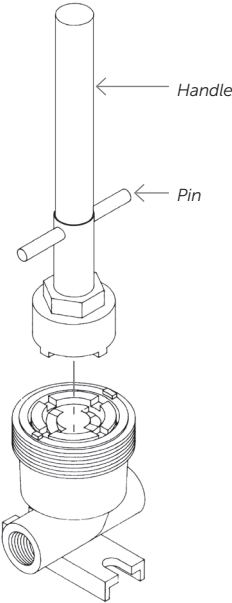
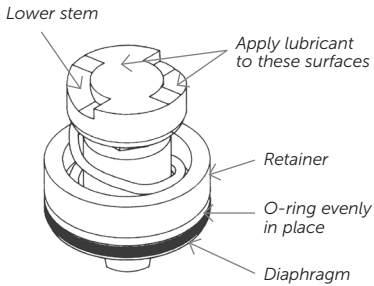

Figure 2.
Figure 3.
4. Refer to Figure 2 and remove the retainer nut (P4) with the alignment tool (T2) by inserting the end into the nut and turning the external hex on the tool counterclockwise with an adjustable wrench (S6).
2. Refer to Figure 3 and begin assembly by making sure the O-ring between the diaphragm and retainer is evenly in place and then drop the diaphragm/retainer assembly (P1) into the body (P5) (see Figure 2).
4. With the alignment tool (T2) on the retainer nut (P4), rotate the alignment tool handle counterclockwise two times, ending up with the pin of the alignment tool parallel to the body ports (see Figure 2).
6. Apply lubricant (S1) to the lower stem (see Figure 3).